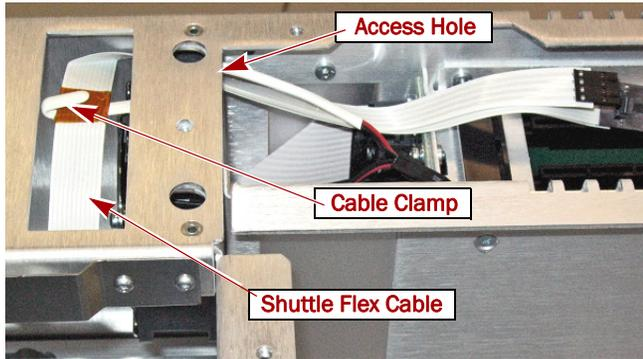

Figure 12. New Flex Cable Routed through the Access Hole
3. Unhook the cables from the **cable clamp** on the other side of the bulkhead above the fan (refer to Figure 12 on page 4).
1. Without bending the cable, carefully guide the **Flex Cable** to the access hole (Figure 12) and insert it.